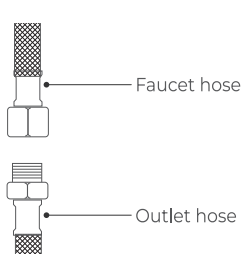

Figure 5
1. If the faucet hose is 3/8", it can be directly connected to the outlet hose. (**Figure 5**)